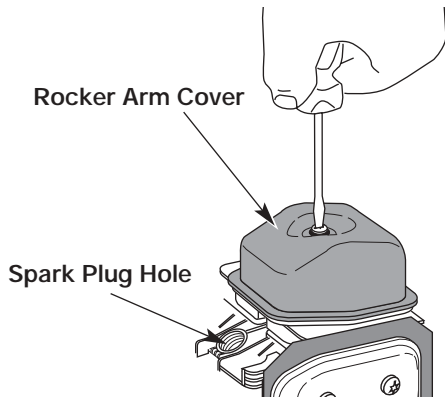

Fig. 26
6. Clean dirt from around the rocker arm cover. Remove the screw holding the rocker arm cover with a large flat blade screwdriver or Torx T-25 bit (Fig. 26). Remove the rocker arm cover and gasket.
- The piston is at the top of its travel while looking in the spark plug hole (Fig. 26).